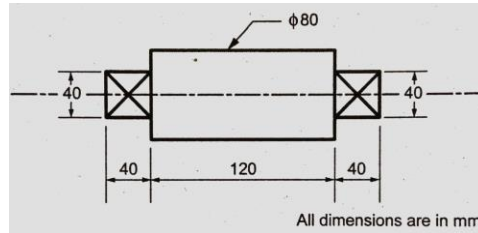

Fig.4
6. 500 pieces of a component as shown in Fig.4 are to be drop forged from 80 mm diameter stock bar. Calculate the cost of manufacturing, if material cost is Rs.2,750/- per meter. Forging charges Rs.1.50 per cm2 of surface area to be forged. Overhead expenses to be 12% of the cost of the material cost. Consider all possible losses during operations.